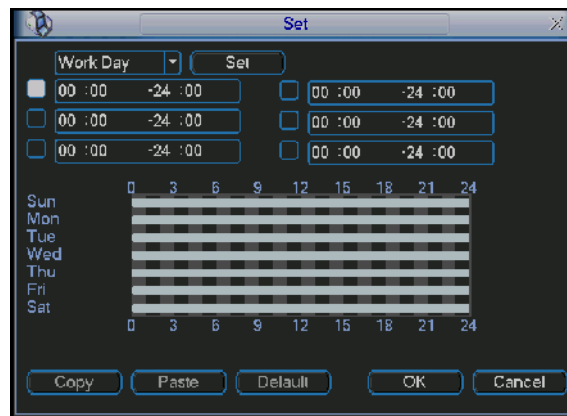
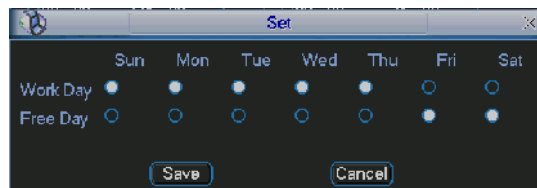

Figure 4-19
Figure 4-20
- ⌘ Period: Click set button, you can see an interface is shown as in Figure 4-19. Here you can set for business day and non-business day. In Figure 4-19, click set button, you can see an interface is shown as in Figure 4-20. Here you can set your own setup for business day and non-business day.